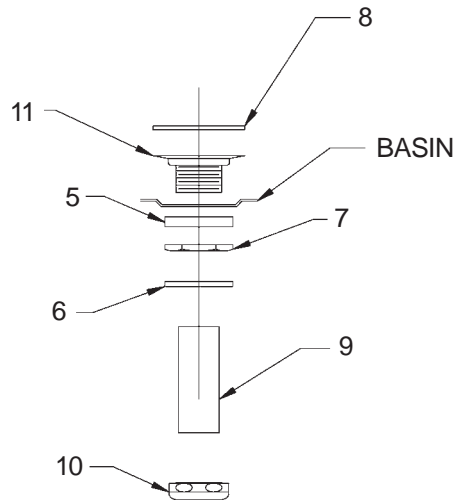

FIG. 14
10. **Install** tailpiece assembly (as shown in Figure 14). Connect waste trap (not provided).